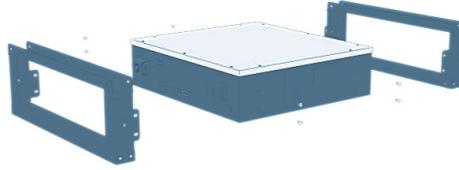
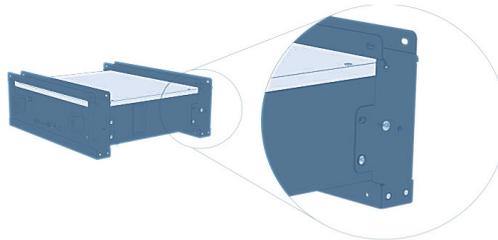

Figure 3-3
Figure 3-4
1. LVR Syntero Series brackets The LVR Syntero Series bracket is shown before installation as shown in Figure 3-3.
2. Place the LVR Syntero Series and brackets as shown in the figure 3-3, and insert the LVR Syntero Series into the brackets. Each bracket is connected to the module by four screws, two screws on one side. As shown in Figure 3-4.